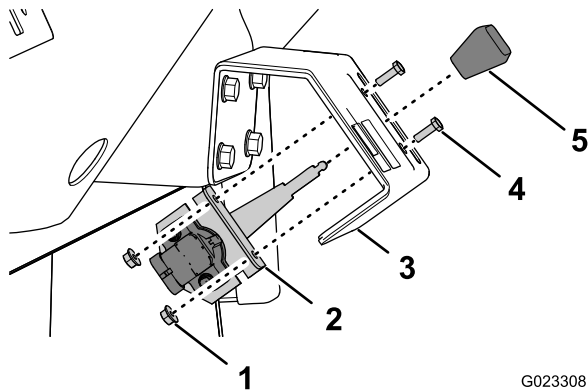

Figure 19
1. Remove the knob (if it is installed) from the lever of the hand throttle (Figure 19).
2. Align the lever hand throttle to the slot in the hand-throttle bracket, and align the holes in the mounting bracket that is attached to the hand throttle to the hand-throttle bracket (Figure 19).
3. Secure the hand throttle to the hand-throttle bracket with the 2 bolts (10–32 x 5/8) and 2 nuts (Figure 19).